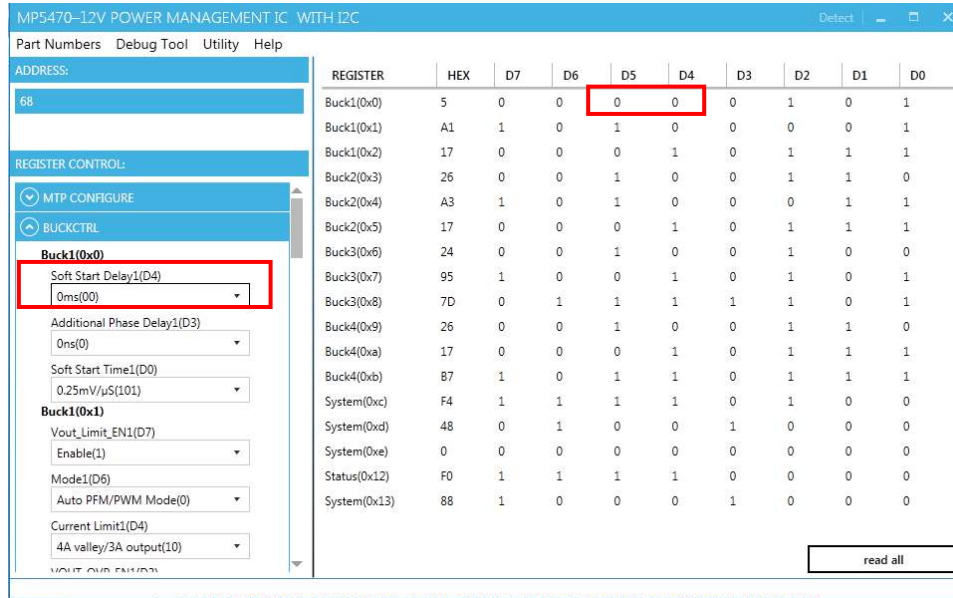

Figure 11: Refer to Datasheet to Translate 0's and 1's
4. Find the item you want to change and select the desired value from the drop-down menu. The changed information of the item will appear on the right side (see Figure 11).